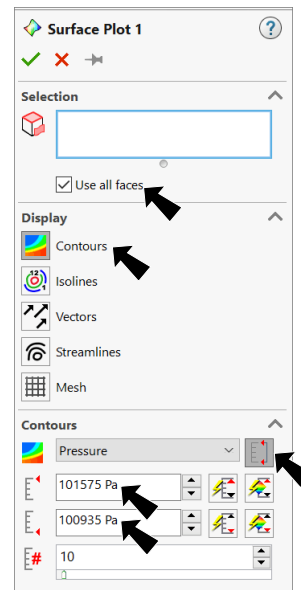

Fig. 18
Step 3. In the Surface Plot Property Manager set: under Selection, **Fig. 18**